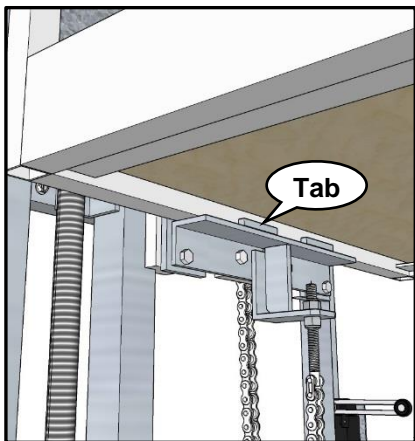

Figure 32
- 3 When positioning car on trolley, make sure the tabs are hooked under car as shown in Figure 32.